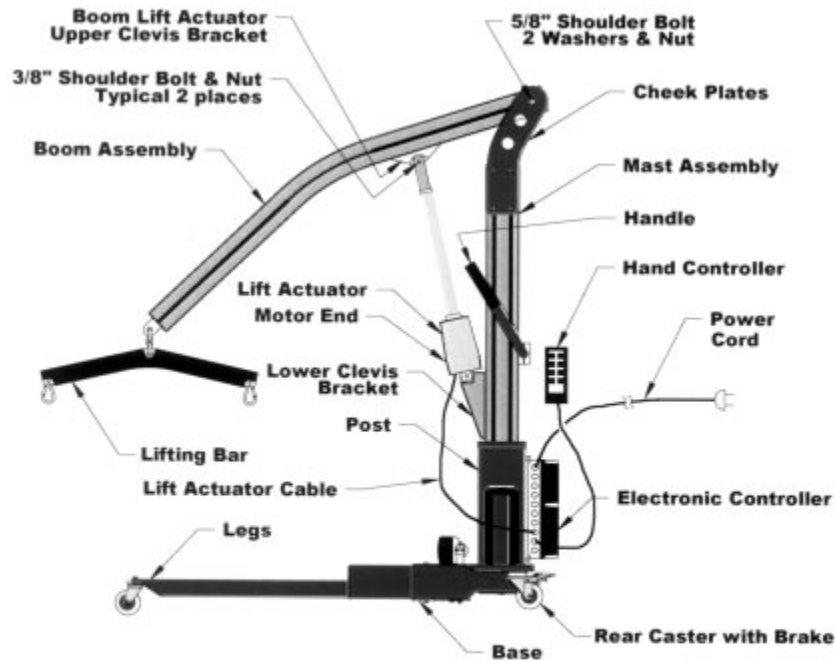

Figure No. 5
1. LIFTEM[®] is normally shipped partially disassembled, and consists of the following six (6) sub-assemblies:
4. To remove the BASE ASSEMBLY from the SHIPPING SKID, unbolt the LIFT RETAINER BAR that is held in place with four (4) – 7/16” hex head screws.
5. Refer to Figure No. 5, which identifies the various assemblies and shows LIFTEM[®] in the final assembled configuration.
Step 6. LIFTING BAR to BOOM ASSEMBLY (Figure No. 5)